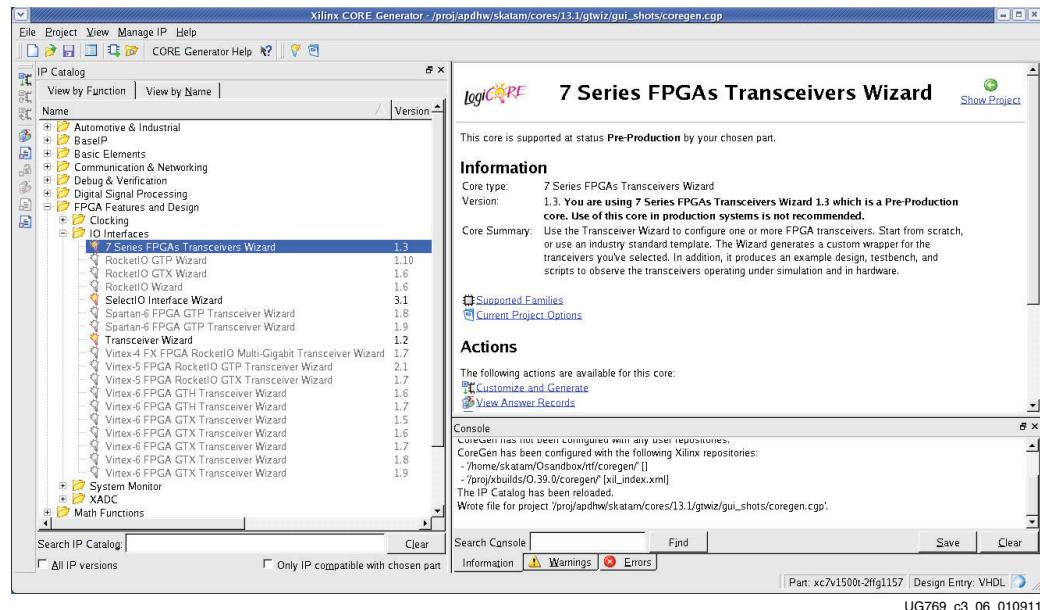

Figure 3-6: Locating the Transceiver Wizard
1. Locate the 7 Series FPGAs Transceivers Wizard 2.5 in the taxonomy tree under: /FPGA Features & Design/IO Interfaces. (See Figure 3-6)